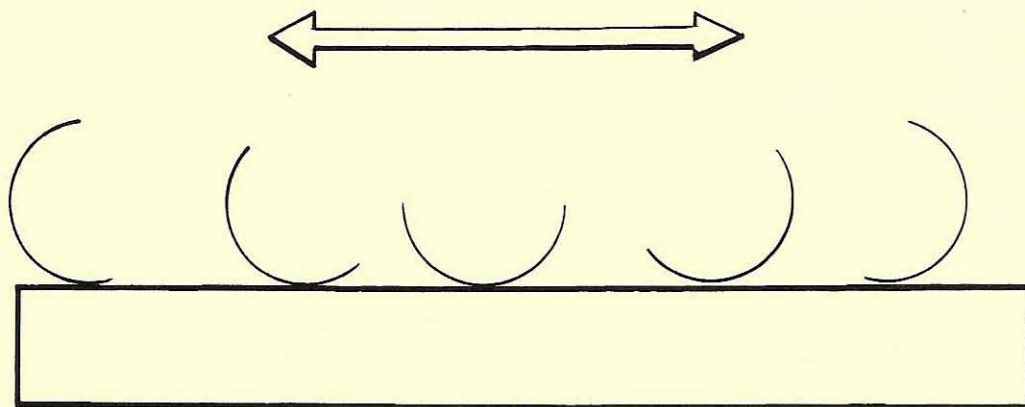

Fig 12.15 The direction and rotation of a gouge while being sharpened on a benchstone
- ③ Place the heel of the outside bevel in the centre of the stone. Keep your elbows by your sides.
- ④ Start by getting a feel for how the flat bevel rests on the surface of the stone. Raise the handle until the bevel lies flat on the stone, and then raise it a little more on to the actual edge. By raising and lowering the handle a little, learn to feel when the bevel is lying truly flat on the surface. With a little practice you will be able to go straight to resting the bevel flat on the stone.
- ⑤ Remember to present the gouge to the benchstone at the cutting angle – the angle at which you want to hold the tool while you are carving. Start on the left of the oilstone with the gouge turned on to its right corner. The mouth of the gouge will be pointing towards the centre of the stone.
- ⑥ The gouge must now move to the opposite end of the benchstone. In doing so, you must also rotate the blade so that it comes to rest on its opposite corner, with the mouth pointing once more towards the centre. This constitutes one sharpening stroke.
- ⑦ Without lifting the gouge from the surface, reverse the movement so the gouge comes to rest on its right corner, over on the left of the stone once more (Fig 12.15). This completes a cycle of two strokes. Notice that the direction of rotation goes *against* the direction of travel, efficiently biting the metal into the stone.
- ⑧ The gouge is rocked like this, from one end of the benchstone to the other and back again, in regular, even strokes. Use the whole cutting surface, but avoid both a figure-of-eight pattern – which rounds over the bevel – and the very edge of the stone.
- ⑨ Present the bevel *flat* all the time. To accomplish this, keep the elbows in, rotating the tool handle from the wrist and forearm. Shift the weight of the body from one leg to the other, keeping your back upright and your knees relaxed and slightly bent. This posture has something of the judo stance and balance about it, and should feel comfortable and unforced. If you work from the elbows only, the bevel will invariably become ‘rolled’ or rounded.